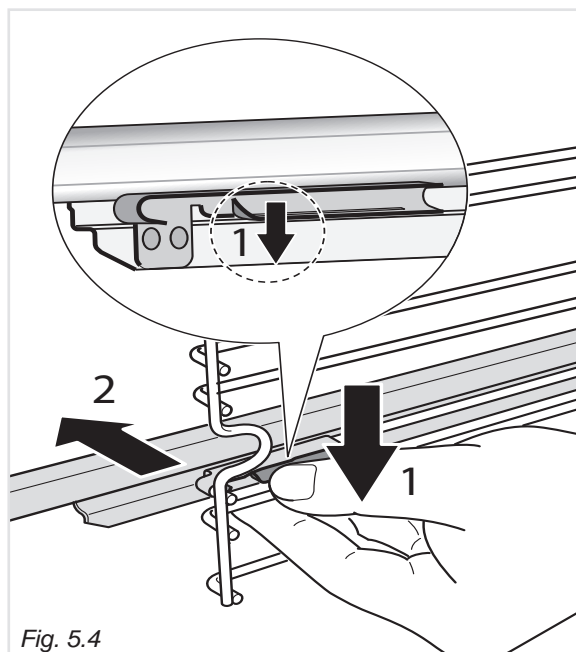

Fig. 5.4
- Find the safety locks. These are the tabs that clip over the wire of the side rack (arrow "1" in fig. 5.4).
- Pull the safety locks away from the wire to release the wire (arrow "2" in fig. 5.4).